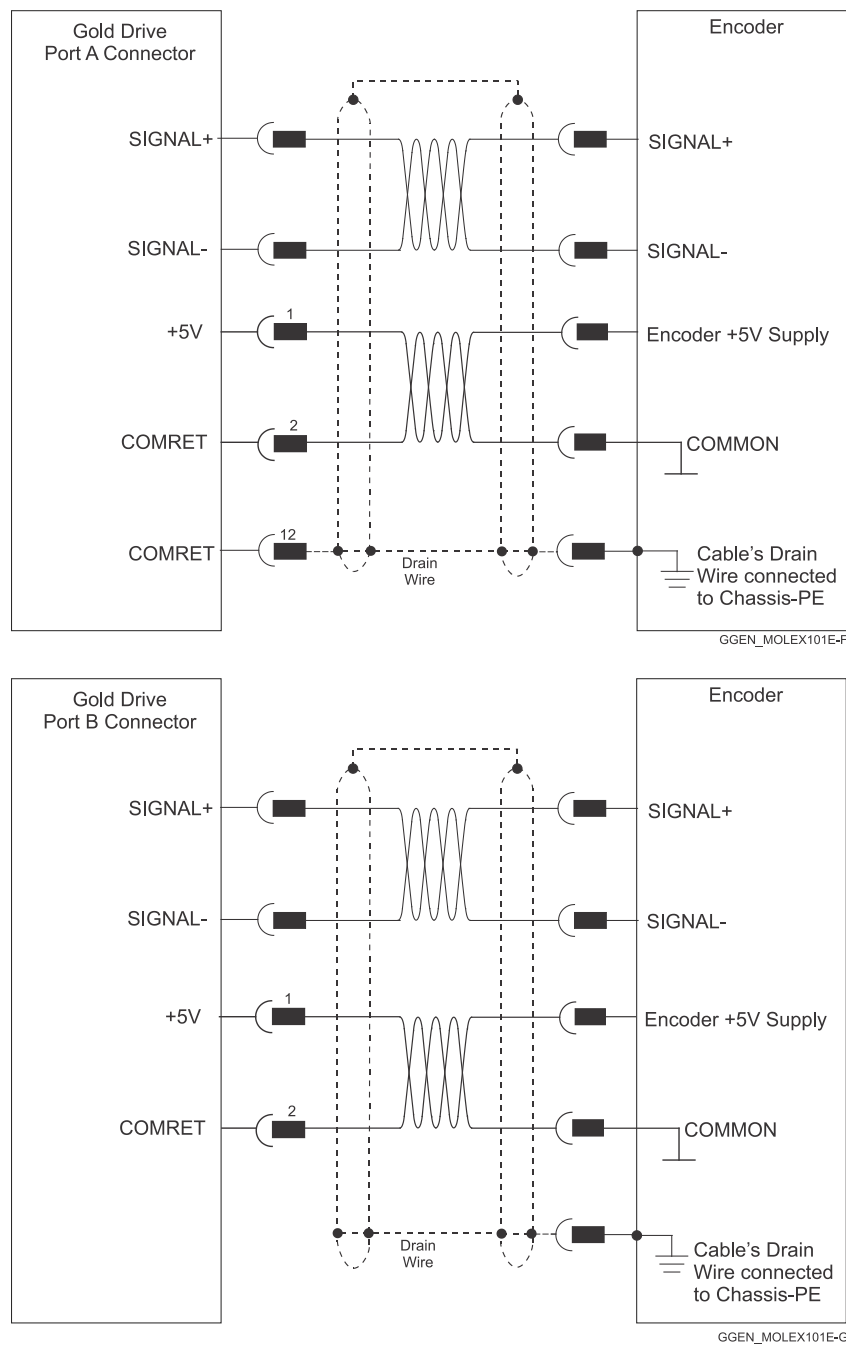

Figure 5: Feedback Port A and B Cable Assemblies
- a. At the drive, connect the feedback drain wire to one of the COMRET terminals in the Shrouded feedback connector (Figure 5).
- b. At the motor, connect the feedback cable drain wire to the GND motor chassis terminal of the feedback connector (Figure 5).